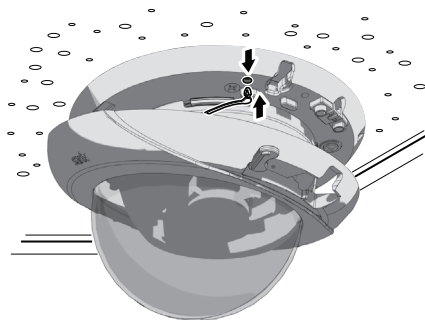

Figure 10. Attaching the Leash
2. Attach the lower dome leash to the back box (refer to Figure 10).